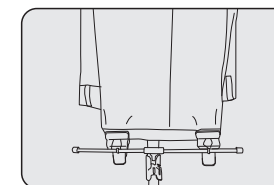

FIGURE 8
2. Fix the two clips on the lower bar of folding rack (figure 8).